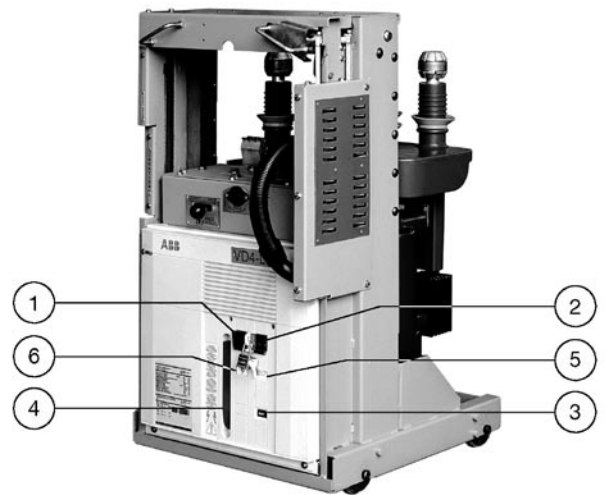

Figure 4. VD4-LMT operating and signalling parts
6.3. Circuit breaker closing and opening operations (figure 4)